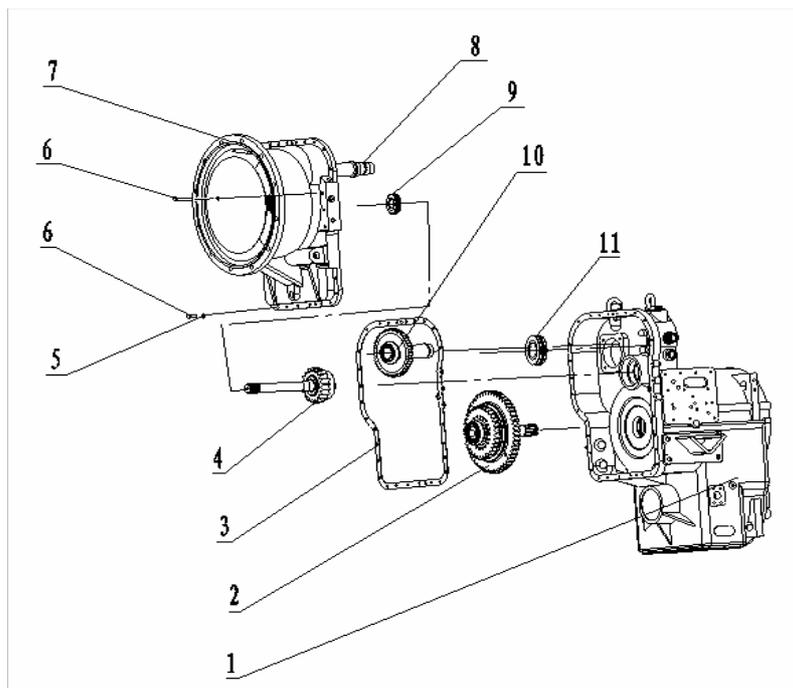

Figure 4
Assemble the torque converter, four-axis assembly (1) (refer to the Figure 4)
8.  Install the overrunning clutch assembly (2).
9. Install the primary input gear assembly (4) in the axis hole of the transmission body (1).
10. Install the steering pump driving axis assembly (10) in the axis hole of the transmission body (1).
11. Install the bearing 5111 (9) in the bearing fosse of the primary gear assembly (4).